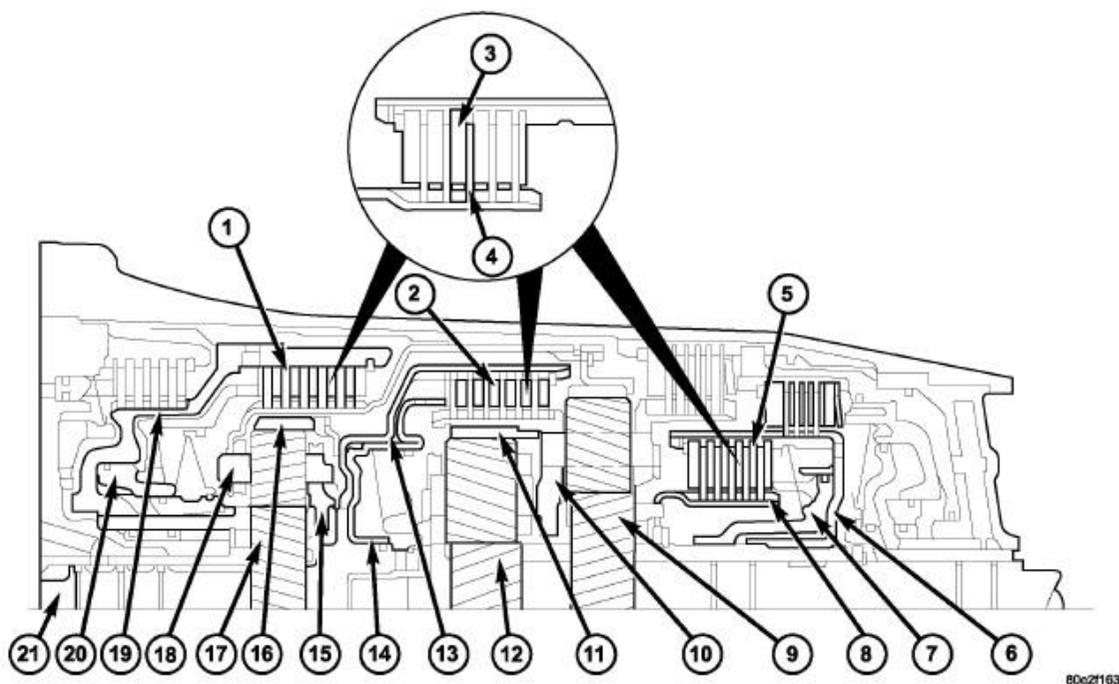

Fig. 132: Identifying Input Clutches
Three multi-plate input clutches (1, 2, 5), the front, middle and rear multi-plate clutches K1 (1), K2 (2), and K3 (5), are located in the planetary gear sets in the transmission housing. Refer to **Fig. 132**.